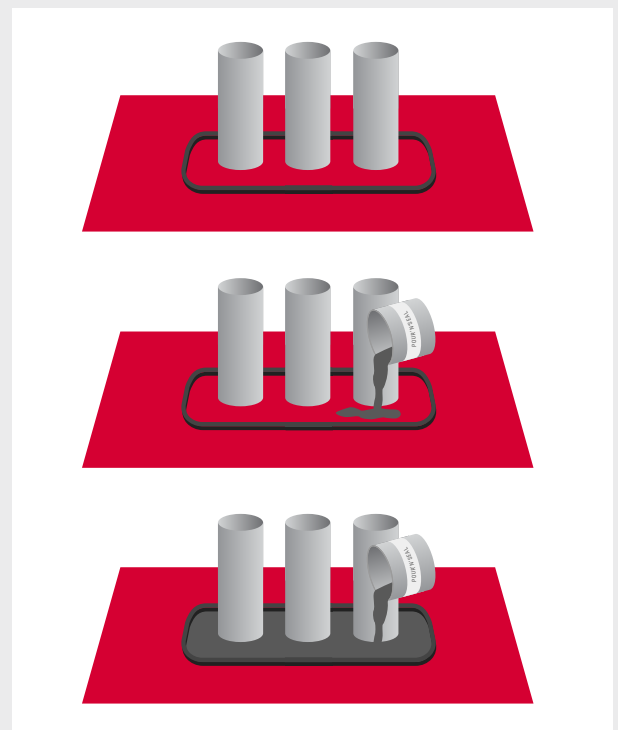

Figure 11
3. Create a dam around the penetration area approximately 2" away from the pipe or other vertical penetrations by removing the release liner from the back of a 1" weather stripping foam and adhere it to the vapor barrier. Form a complete circle to contain the POUR-N-SEAL™ materials. (Fig. 11)
4. Once mixed, pour contents around the pipe penetrations. If needed, a brush or a flat wooden stick can be used to direct the sealant completely around penetrations, creating a complete seal. (Fig. 11)